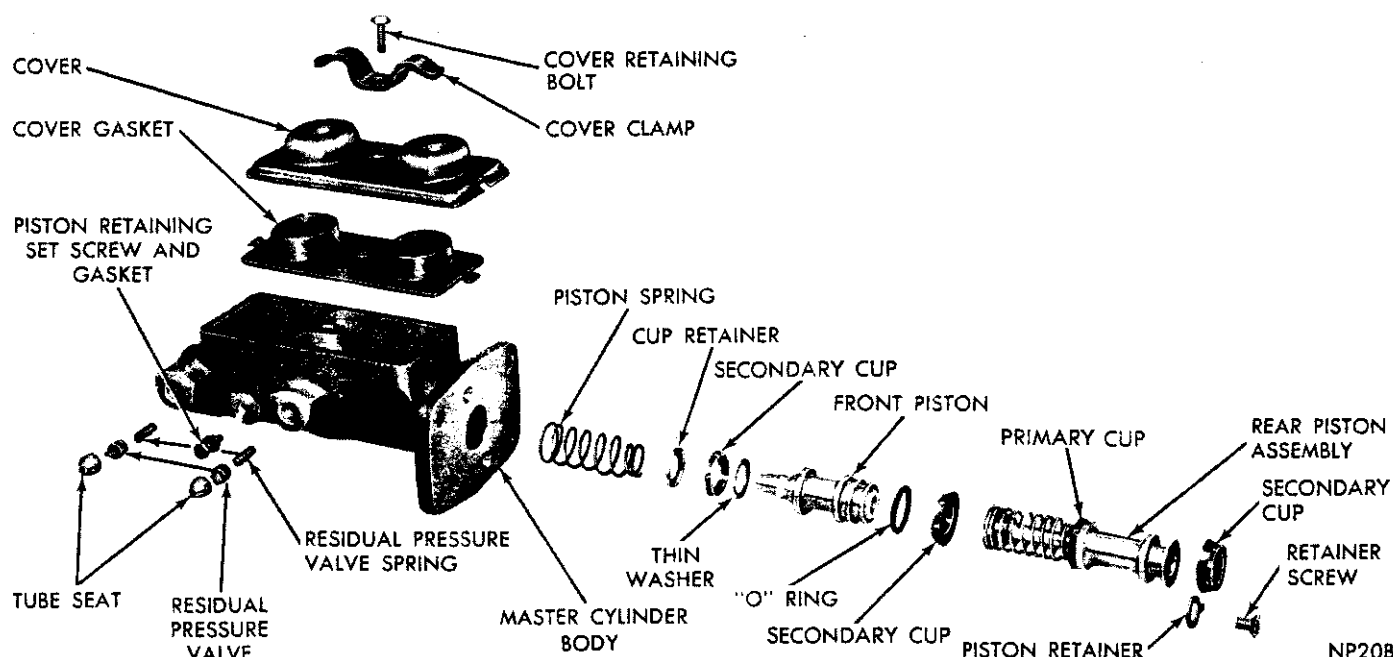

Fig. 4—Tandem Master Cylinder (Exploded View)
(1) Carefully work primary cup on end of front piston with the lip away from piston (Fig. 4).
(2) Slide "O" ring over the rear end of front piston and into correct land.
(3) Carefully work front piston secondary cup (Fig. 4) into rear land, with the cup lip away from piston.
(4) Slide cup retainer over front end of piston, followed by piston spring (Fig. 4).
(1) Carefully work secondary cup over rear end of rear piston with lip of cup toward piston (Fig. 4).